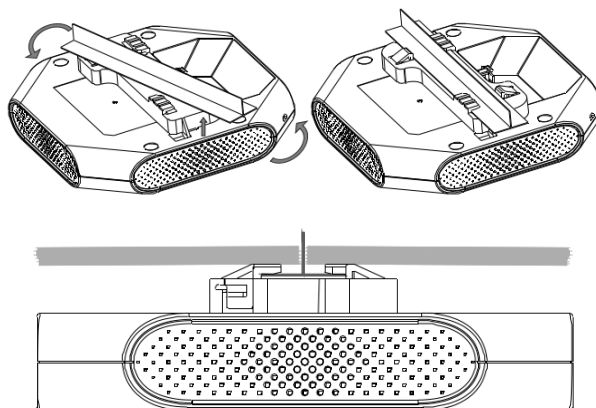

Figure 5: Mounting AP
- Hold the AP next to the ceiling tile rail with the ceiling tile rail mounting slots at approximately a 20-degree angle to the ceiling tile rail (see Figure 5). Make sure that any cable slack is above the ceiling tile.
- Pushing toward the ceiling tile, rotate the AP clockwise until the device clicks into place on the ceiling tile rail(see Figure 5).